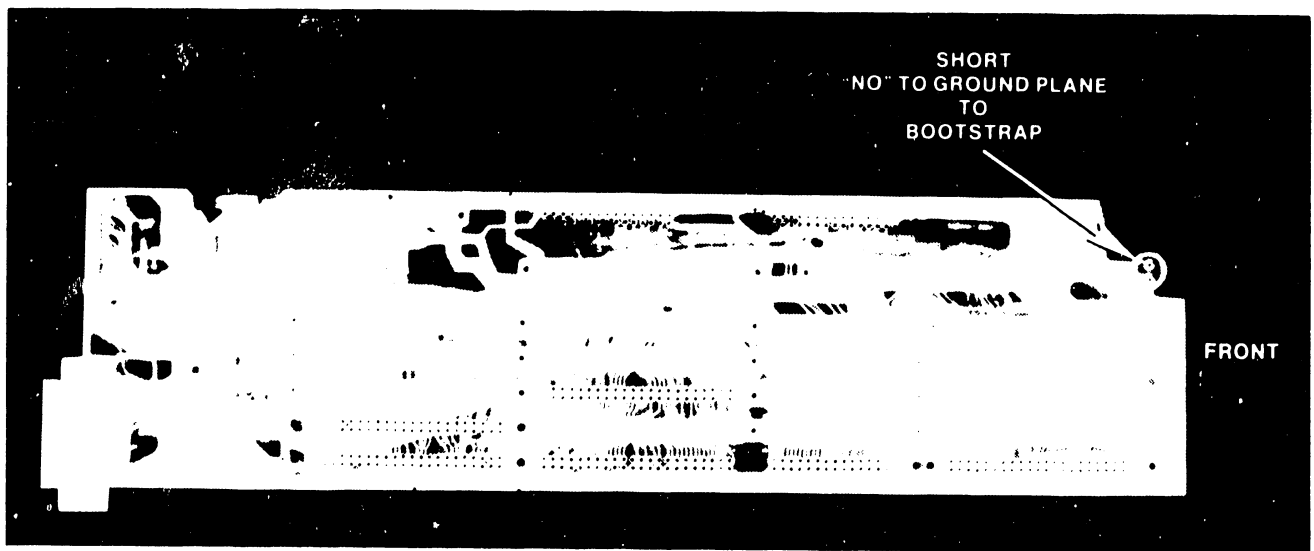

Figure B-4 Bootstrap Lands on Motherboard
5. Initiate a bootstrap operation by shorting the bootstrap etches on the Motherboard (refer to Figure B-4) and following the bootstrap prompts (see section B-3.5). When the bootstrap is complete, press the LOAD button on the VS Mainframe CPU. Observe the Terminal for the display, CONTROL MODE R 00.
To eliminate the possibility of an unintentional bootstrap, VS AWS Systems are presently being built with this button either disconnected or completely left out of the unit even though the access hole may still be there as shown in Figure 3-2. In order to initiate a bootstrap on these units, the CE must remove the cover and short the appropriate lands on the Motherboard as shown in Figure B-4.
No Bootstrap Pushbutton - A few early VS AWS systems had no pushbutton installed at all. To implement a bootstrap operation from one of these systems, short the etches shown on Figure B-4.